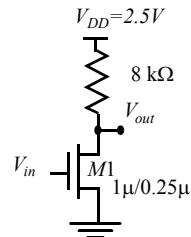

Figure 0.7 MOS circuit.
- [M, SPICE, 3.3.2] Problem 11 uses the MOS circuit of Figure 0.7.
17. [M, None, 3.3.3] Compute the gate and diffusion capacitances for transistor $M1$ of Figure 0.7. Assume that drain and source areas are rectangular, and are 1 μm wide and 0.5 μm long. Use the parameters of Example 3.5 to determine the capacitance values. Assume $m_j = 0.5$ and $m_{jsw} = 0.44$. Also compute the total charge stored at node In , for the following initial conditions:
- For the circuit of Figure 0.7, calculate nominal, minimum, and maximum currents in the NMOS device with $V_{in} = 0 \text{ V}$, 2.5 V and 5 V . Assume 3σ variations in V_{T0} of 25 mV , in k' of 15% , and in lithographic etching of $0.15 \mu\text{m}$.